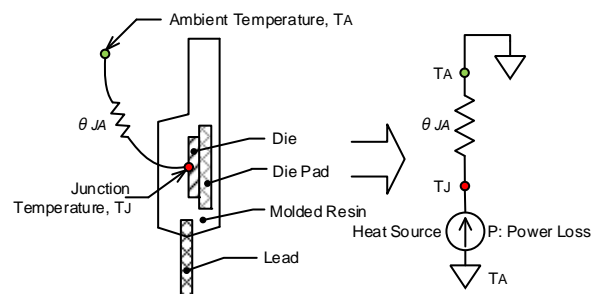

Figure 2 Thermal Equivalent Circuit Model
The datasheet provides information on the thermal resistance of the TO220CP-3 package, based on which junction temperature can be calculated. Figure 2 shows a thermal equivalent circuit model without a heatsink, which gives Equation (1) for the junction temperature calculation. The junction temperature T_J at the ambient temperature of 25°C is determined as follows.